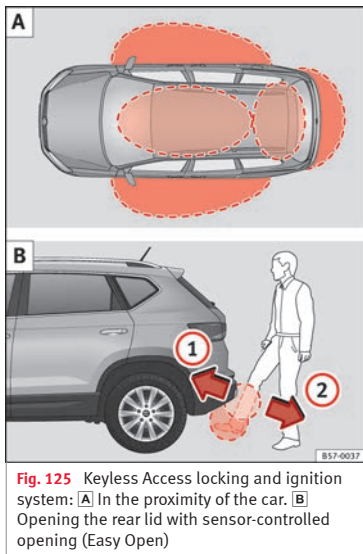

Fig. 125 Keyless Access locking and ignition system: **A** In the proximity of the car. **B** Opening the rear lid with sensor-controlled opening (Easy Open)
Keyless Access is a key-free locking and ignition system to unlock and lock the vehicle without actively using its key. To do this, it is only necessary to have a valid vehicle key in the corresponding detection area to attempt to access the vehicle » **Fig. 125 A** and touch one of the sensor surfaces on the door handles » **Fig. 126** or operate the *softtouch*/handle on the rear lid » **page 127** » **!**
If a valid key is located in the proximity of the car » **Fig. 125 A**, the Keyless Access locking and ignition system gives the key entry as soon as one of the sensor surfaces on the front door handles is touched or the *softtouch*/handle on the rear lid is operated. The following features are then available without having to use the vehicle key actively:
When the vehicle is locked, the rear lid automatically unlocks on opening if » Fig. 125 A there is a valid vehicle key in the proximity.
If there is a valid vehicle key in the proximity of » Fig. 125 A the rear lid, it is possible to unlock and open or close it moving one foot in the area of the sensors » Fig. 125 B located under the rear bumper.
- With a brisk movement, bring your foot and lower leg as close as you can to the bumper. The lower part of the leg needs to be close to the upper sensor area and your foot to the lower sensor area » Fig. 125 B 1.
- Quickly remove your foot and lower leg from the sensor areas » Fig. 125 B 2. The rear lid opens automatically.